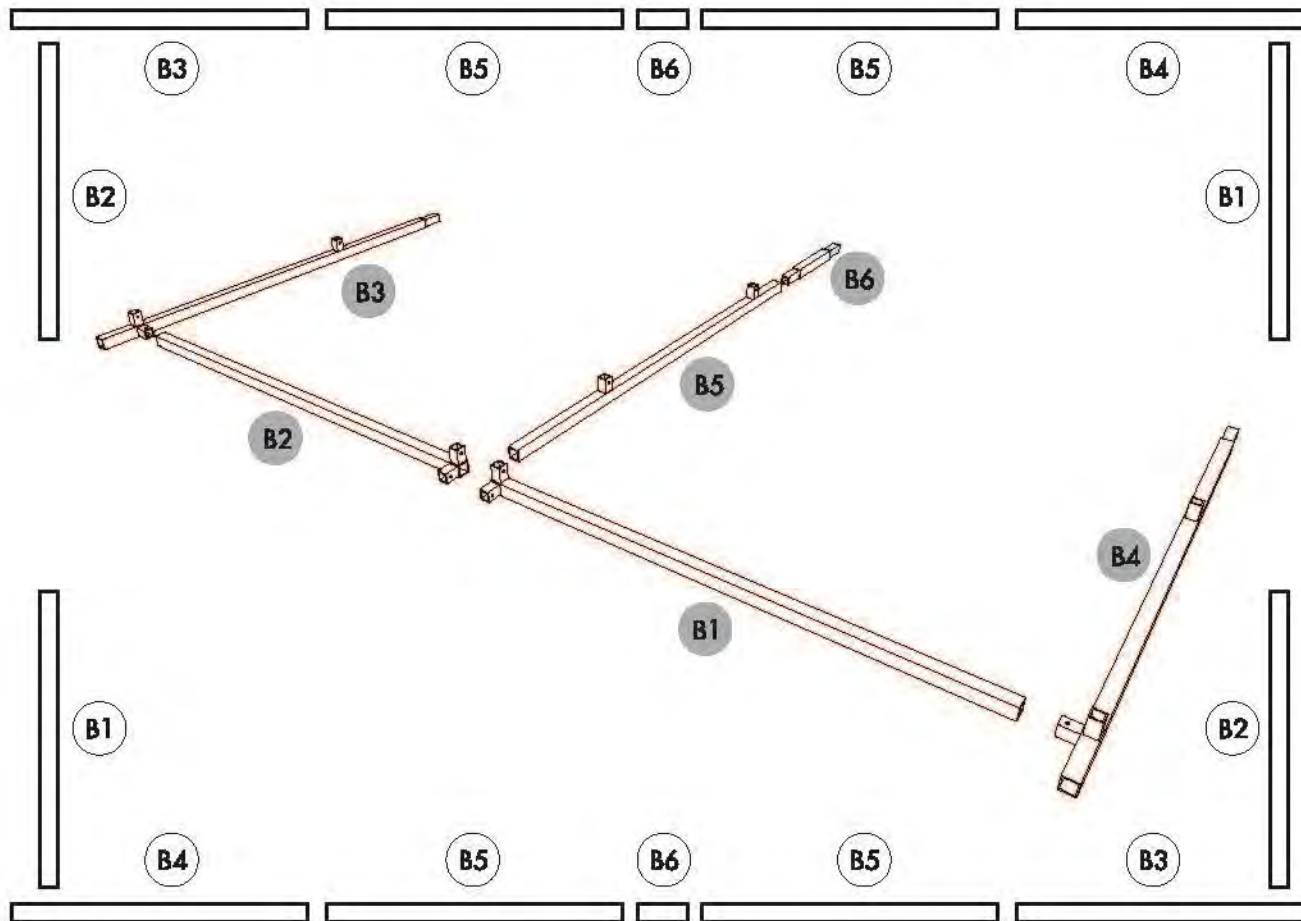

Figure 4.1
1. Assemble the sections in sequence as indicated in Figure 4.1.